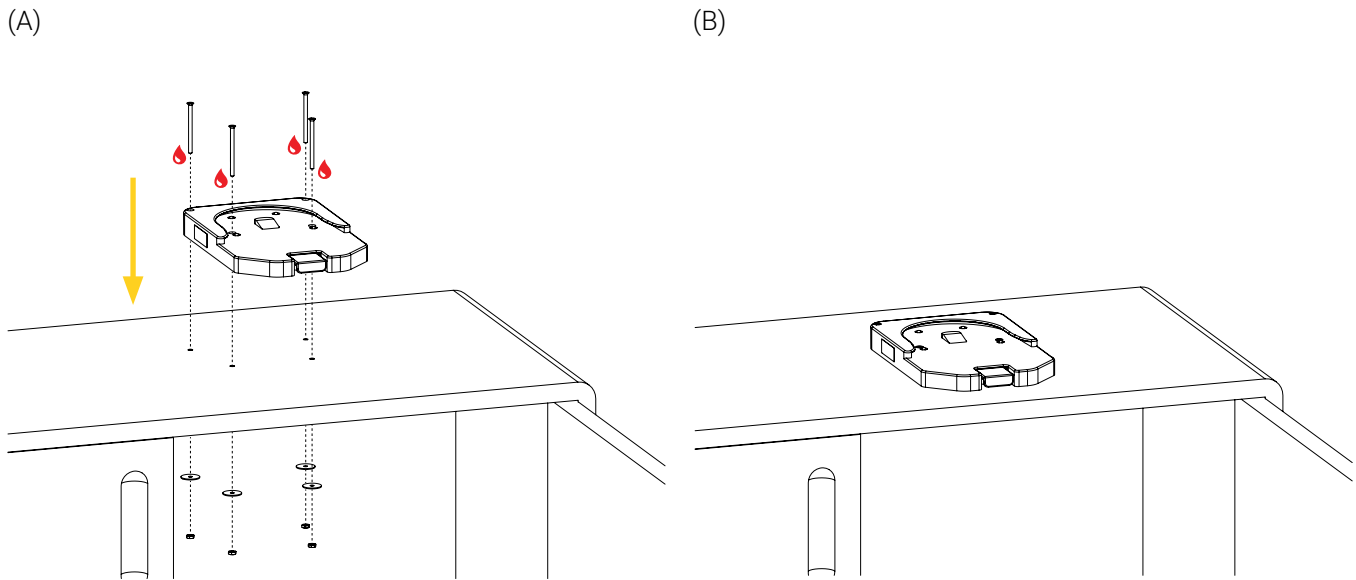

Figure 10: Installation of the Extended Surface Base on a counter top
5. Remove the drilling template and drill four (4) holes perpendicularly, using a drill and 13/64 in. D drill bit.
8. Place the Extended Surface Base on the installation surface and align the drilling holes (Figure 10 A).
9. Insert four (4) 10-32 in. stainless steel screws coated with high strength thread lock adhesive (🔴) from above the surface, then tighten the screws in a cross-pattern from under the surface using four (4) 0.040 in. ID X 1 in. OD X 0.203 in. Thk. washers, four (4) 10-32 in. D nuts and a Phillips-head screwdriver (Figure 10 B).